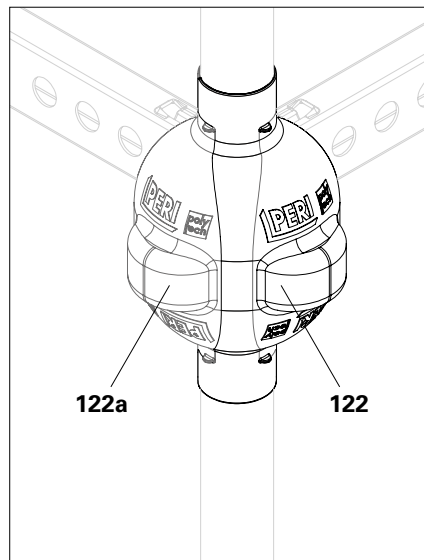

Fig. A8.06
2. For ledgers arranged around a 90° corner: fit Poly Cover UPC-C (**122 + 122a**) in an overlapping manner. (Fig. A8.06)